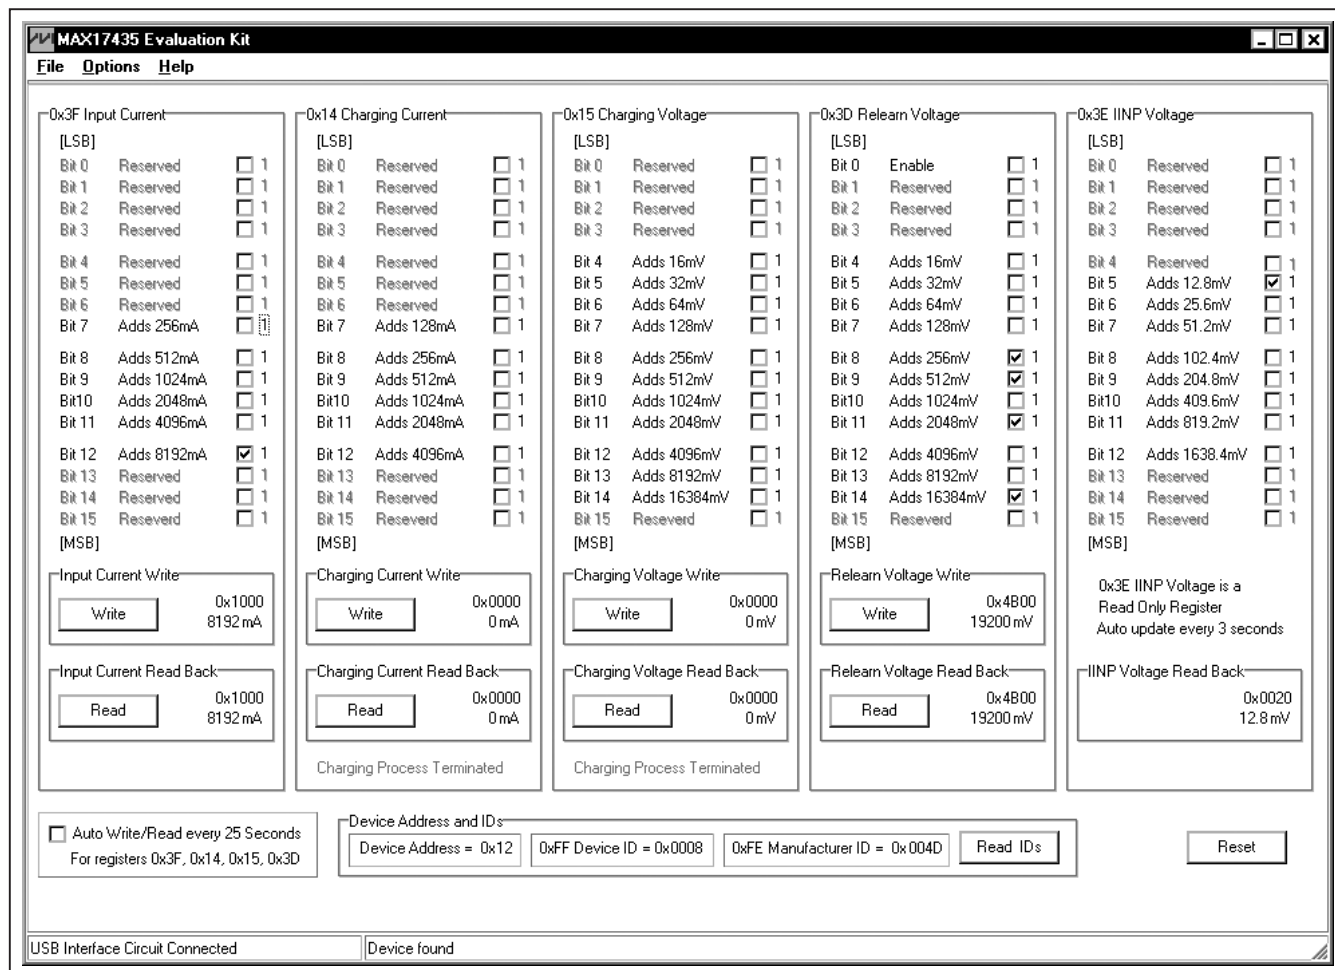
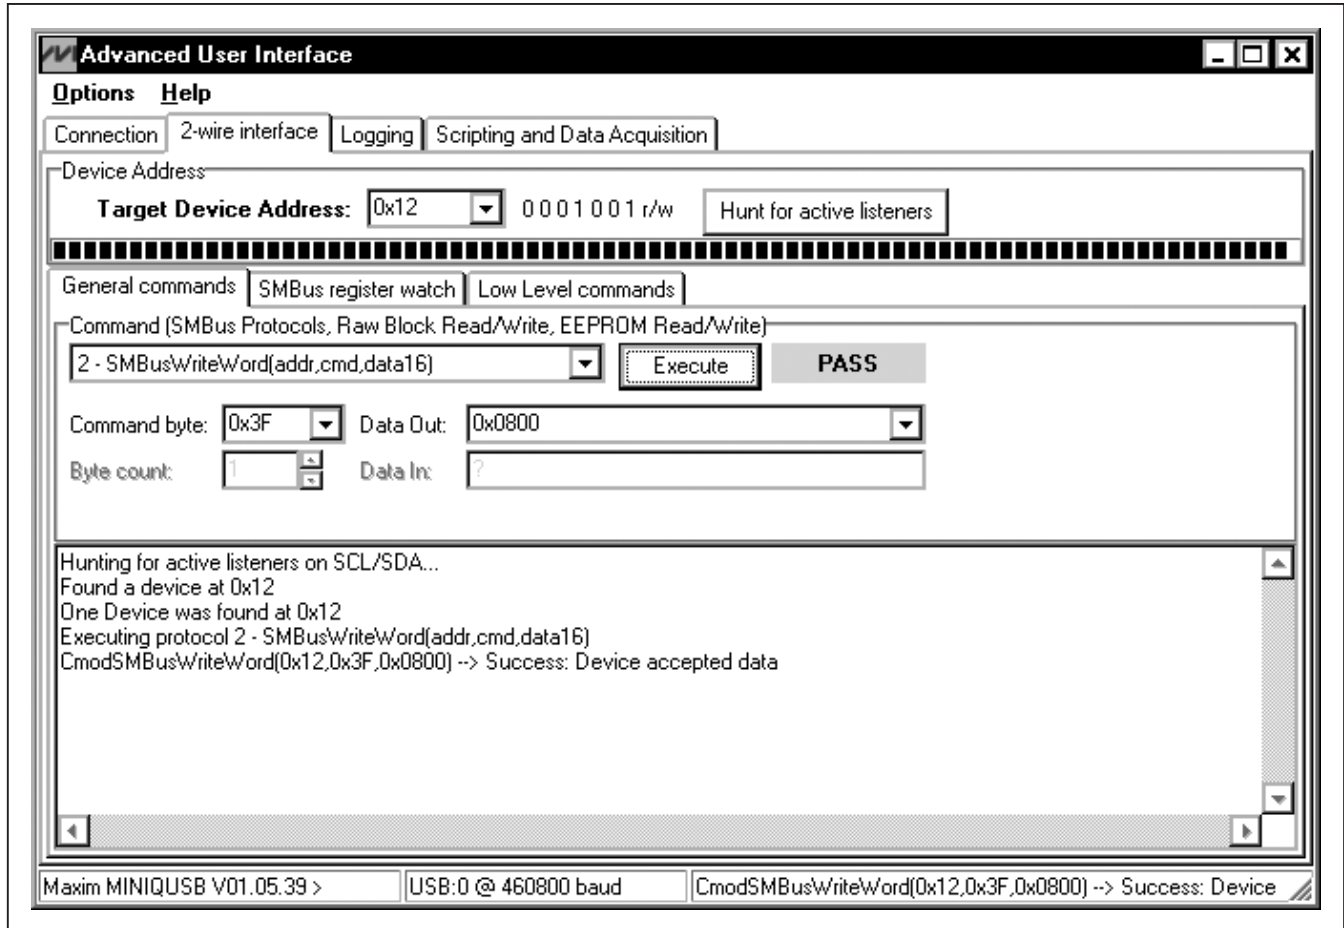

Figure 1. MAX17435 Evaluation Kit Software Main Window
Figure 3. Simple Low-Level 2-Wire Interface
- 12) Observe as the program automatically detects the connection of the MAX17435 and starts the main program. After successful connection, the EV kit software main window appears in the upper-left corner of the window, as shown in Figure 1.
The GUI shown in Figure 1 is the main window of the EV kit software that provides a convenient means to control the MAX17435. Use the mouse or press the tab key to navigate through the GUI controls. The correct SMBus write operation is generated to update the MAX17435 internal memory registers when any of these controls are executed.
The EV kit software main window (Figure 1) divides the EV kit functions into logical group boxes. The **0x3F Input Current** group box sets and reads back the adapter input-current limit on the EV kit. The **0x14 Charging Current** group box sets and reads back the battery-charging current on the EV kit. The **0x15 Charging Voltage** group box sets and reads back the battery-charging voltage on the EV kit. The **0x3D Relearn Voltage** group box enables/disables and sets and reads back the battery-relearn voltage on the EV kit. The **0x3E IINP Voltage** group box displays the input-current monitor output (IINP voltage) on the EV kit. The **Device Address and IDs** group box reads and displays the device address, device ID, and manufacturer ID of the MAX17435 IC. The **Auto Write/Read every 25 Seconds** checkbox automatically sends a write and read command every 25s to update and read back the data to and from registers 0x3F, 0x14, 0x15, and 0x3D. The bottom-left status bar of the main window provides the USB interface circuit communication status. The bottom-right status bar indicates the presence or absence of the MAX17435 IC.
There are two methods for communicating with the EV kit, through the normal user-interface panel (Figure 1) or by using low-level SMBus commands available through the **Advanced User Interface 2-Wire Interface** tab (Figure 3) from the main program's **Options | Interface (Advance Users)** main menu. A window is displayed that allows SMBus operations, such as **SMBusReadWord** and **SMBusWriteWord**.
Note: The SMBus dialog boxes accept numeric data in binary, decimal, or hexadecimal. Hexadecimal numbers must be prefixed by \$ or 0x. Binary numbers must be exactly eight binary digits. See Figure 3 for an example of this tool. Figure 3 shows a simple SMBus write-word operation using the included 2-wire interface diagnostics tool. In this example, the software is writing data 0x0800 to the register address 0x3F (input current) to the device with the device address 0x12. The data sequence sets the MAX17435 input current to 4096mA.